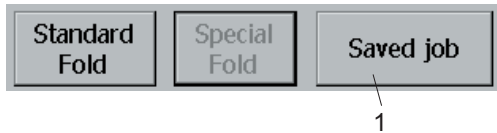

Fig. 26 Fold setting
1. Touch the *Saved job* key (Fig. 26/1).